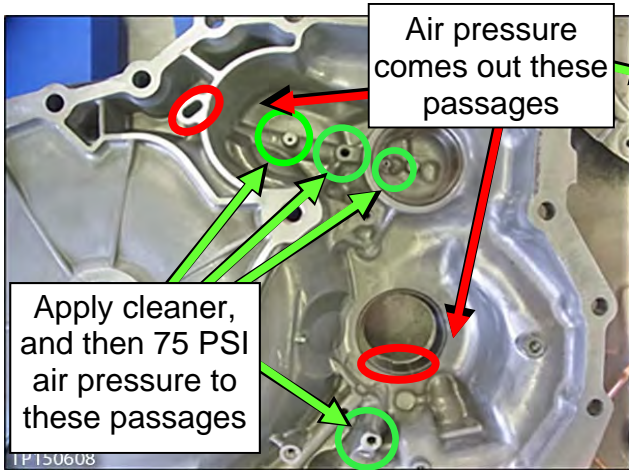
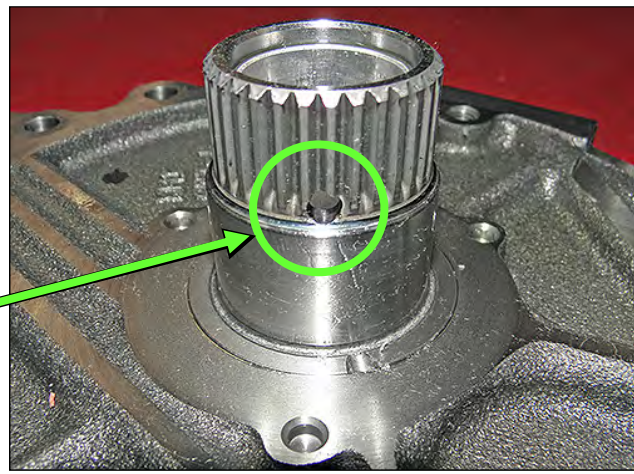

Figure 125
Figure 128
96. Clean the oil passages of the converter housing, lubrication tube and dummy cover with brake cleaner (or equivalent) where shown in Figure 125 through Figure 128 below.